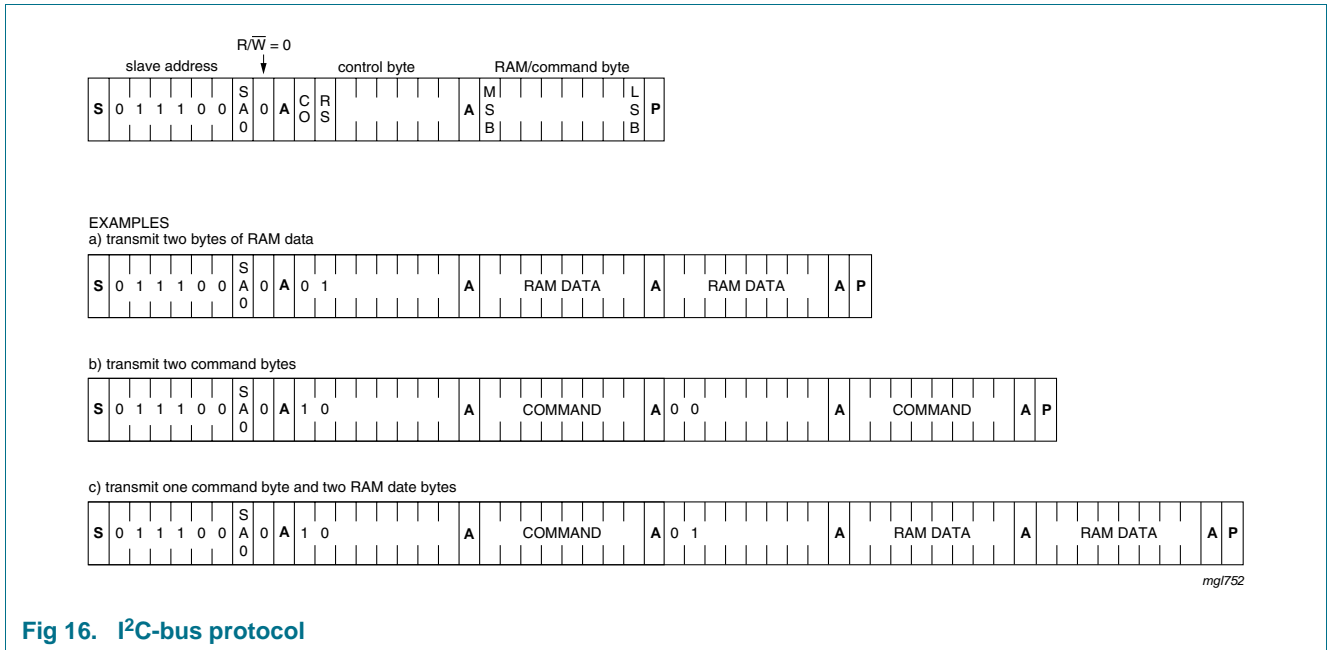

Fig 16. I2C-bus protocol
The I2C-bus protocol is shown in Figure 16. The sequence is initiated with a START condition (S) from the I2C-bus master which is followed by one of two possible PCA85132 slave addresses available. All PCA85132 with the corresponding SA0 level acknowledge in parallel to the slave address, but all PCA85132 with the alternative SA0 level ignore the whole I2C-bus transfer.